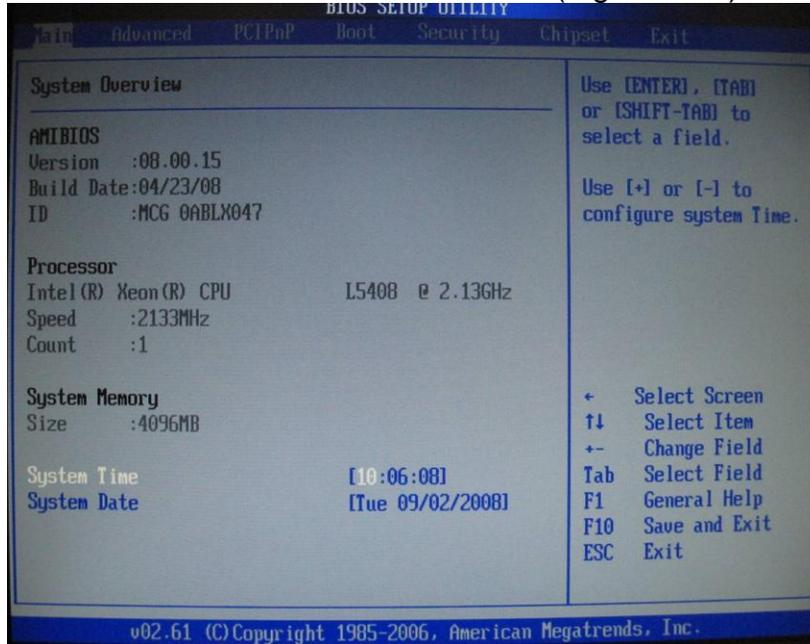

Figure 8-11 System Overview
1. On the **Main BIOS System Overview** screen ensure **System Time and Date** are correct, Press **Enter**. (Figure 8-11).